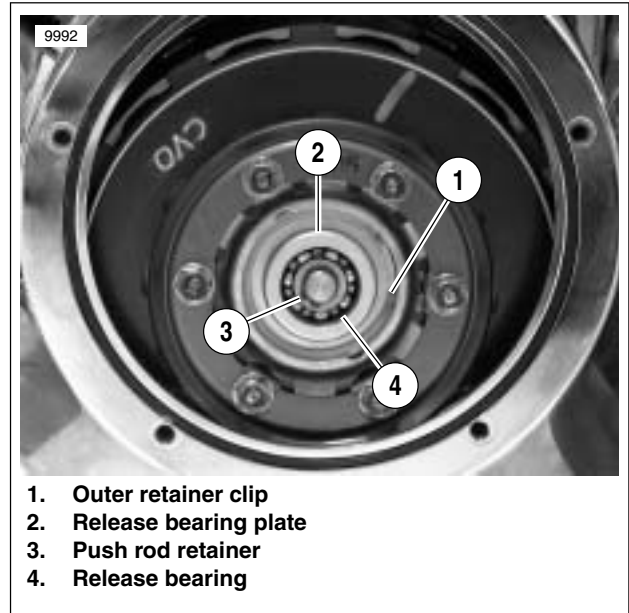
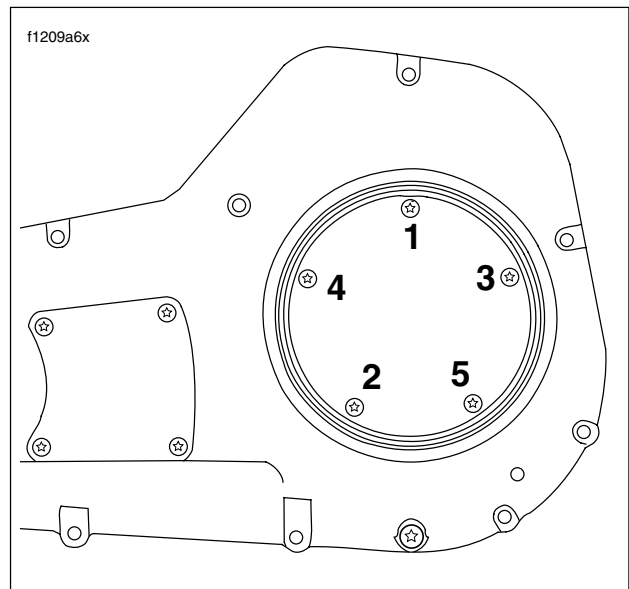

Figure 6-1. Clutch Release Bearing
Figure 6-2. Clutch Inspection Cover Torque Sequence
3. See Figure 6-1. Remove outer retainer clip (1).
4. Pull out release bearing plate (2) with push rod.
5. Remove push rod retainer (3).
6. Press out bearing (4).
1. See Figure 6-1. Pressing on the outer race, press a new bearing (4) into plate (2).
2. Assemble push rod to plate (2).
3. Snap in push rod retainer (3).
5. Snap in outer retainer (1).
6. See Figure 6-2. Install clutch inspection cover. In sequence, tighten fasteners to 84-108 **in-lbs** (10-12 Nm).